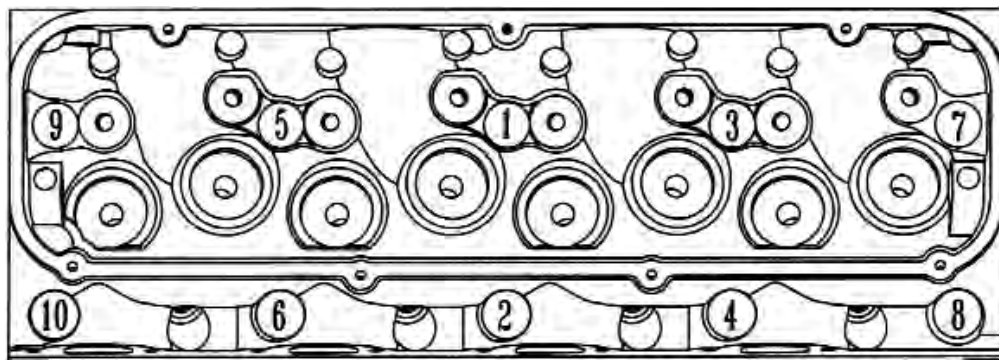

Figure 1— Tightening Sequence
- 6. Head Installation** - Use Edelbrock # 7314 or Fel-Pro #1018 head gasket or equivalent. **NOTE:** For Performer RPM 460 (Non-CJ) heads, Edelbrock Cylinder Head Gasket Set #7365 may also be used. This set includes all gaskets necessary for installation of Edelbrock cylinder heads; including intake, exhaust, cylinder head, water neck and valve cover gaskets. Follow the installation instructions for the head gasket. Be sure that the surface of the block and the surface of the cylinder head is thoroughly cleaned to remove any oily film before installation. Use alcohol or lacquer thinner on a lint-free rag to clean. Apply engine oil to the head bolt threads, washer, and bolt where it contacts the washer. The head bolt washers should be checked that they seat properly on the bolt underhead, and not on the head bolt underhead radius. Torque the head bolt 135 ft./lbs. in four steps following the factory tightening sequence (see Figure 1). A re-torque is recommended after initial start-up and cool-down (allow 2-3 hours for adequate cooling). Install the intake manifold bolts lubricated with engine oil not exceeding 25 ft-lbs of torque when tightening. It is also good practice to lubricate the exhaust manifold/headers bolt threads with a small amount of anti-seize paste. Spark plugs should also be tightened to a maximum of 10 ft-lbs of torque with the sparkplug thread lubricated with a small amount of anti-seize paste.